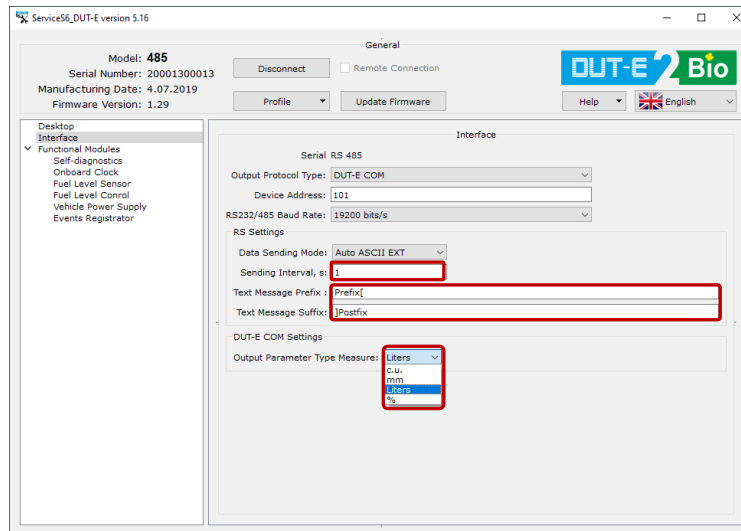

Figure E.3 — Example of DUT-E 2Bio 485 sensor settings made using the service software for data transfer, according to ASCII EXT extended text protocol
2) According to ASCII EXT extended text protocol, DUT-E 2Bio 232/485 sensor displays one parameter at set intervals in the form of characters (ASCII code) — current data readings in units preset using the service software or mobile application (conventional units/mm/liters/%) (see figure E.3).